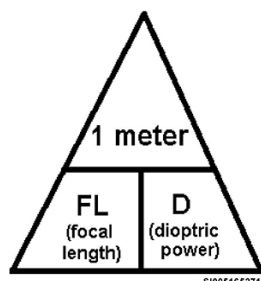

Figure 1-4. Pyramid for calculating dioptric power or focal length.
Calculating the focal length of a lens based on its dioptric power is a straightforward process. An easy way to remember the formula for the calculation is to think of a pyramid with 1 meter at the top of the pyramid divided by the focal length (FL) and dioptric power at the base of the pyramid (fig. 1-4).